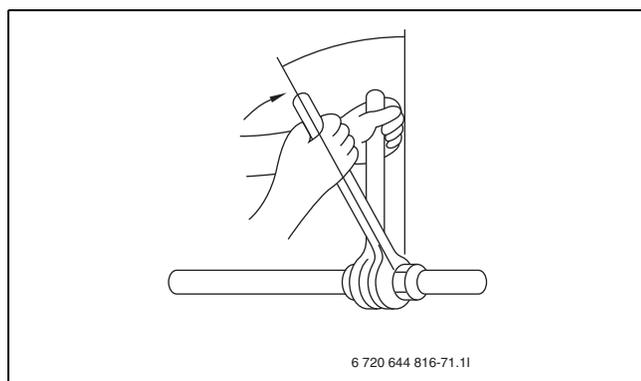

Fig. 21 Tighten nut using two wrenches
- ▶ Tighten flange nut with spanners. For torque, refer to table 5. Use a wider wrench as the torque counteracting support (→ fig. 21).